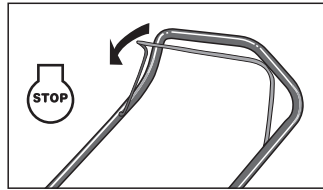

Fig.9
1. Release the brake control handle to stop the engine and blade. (Fig.9)